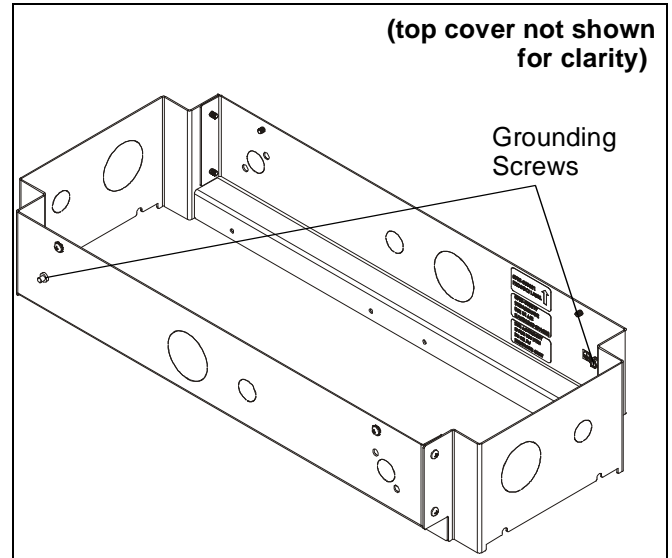

Figure 2
3. Connect ground wire (not included) to grounding screws, if necessary. (See Figure 2)